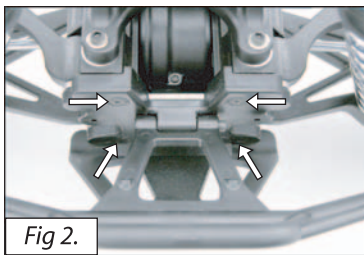

Fig 2.
- Remove the four screws in the bulkhead allowing the bumper/skidplates and pin mounts to be removed (fig 2).